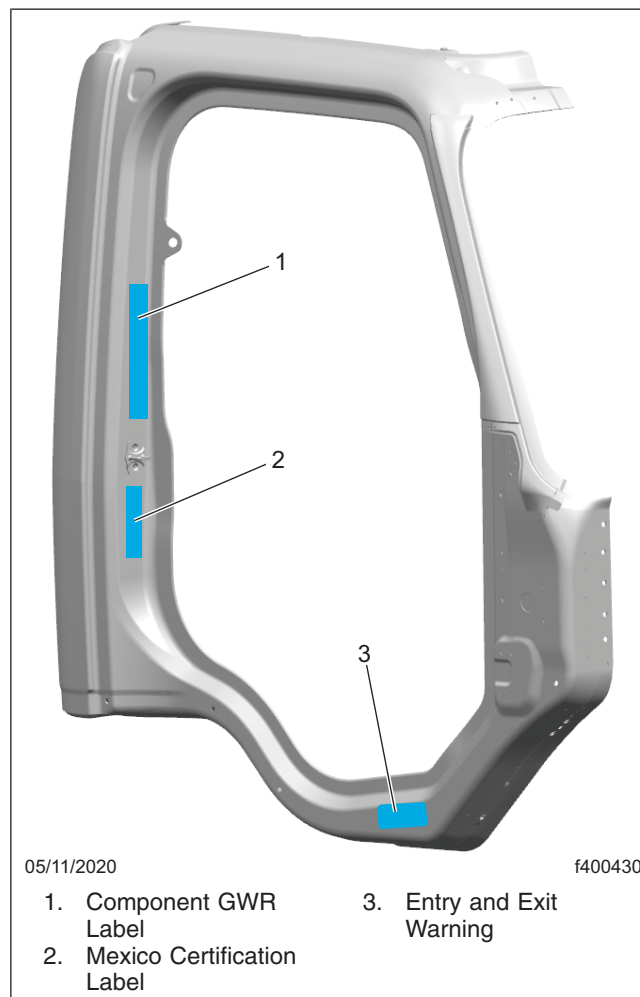

Fig. 7, Component GWR Label Location, 108SD and 114SD
3. Open the passenger side door, and locate the component GWR label. See Fig. 7. See Fig. 5 for an example of a Freightliner component GWR label.